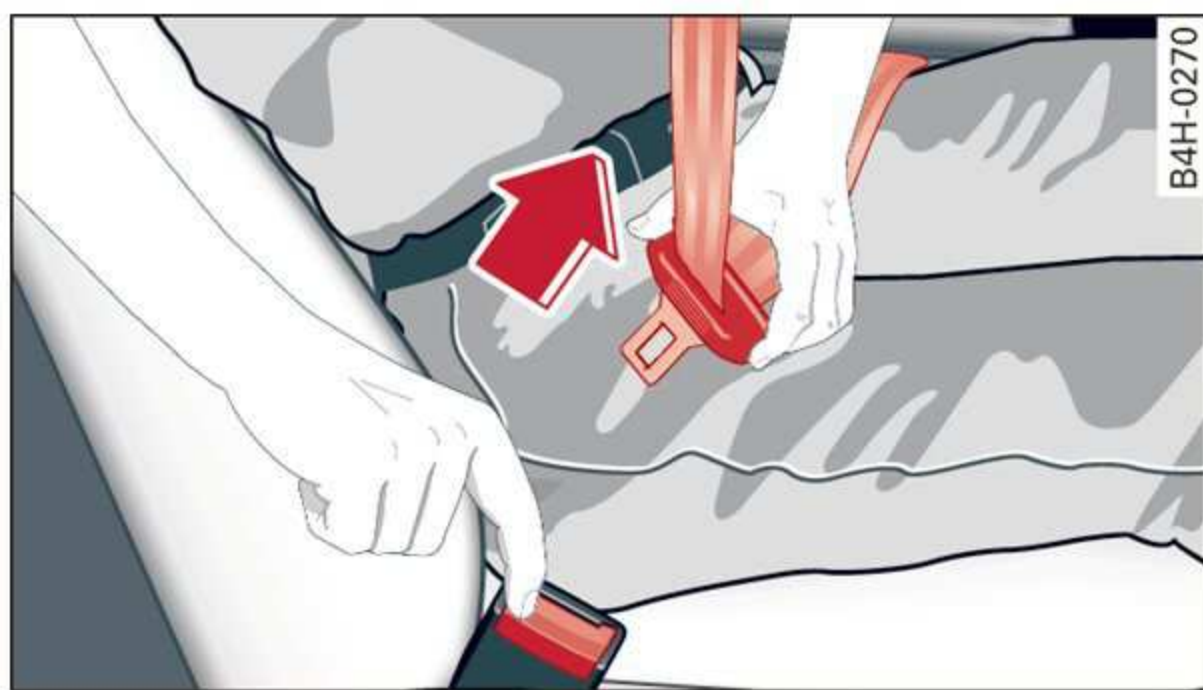

Fig. 154 Releasing the tongue from the buckle
- ▶ Push the red release button on the buckle ⇒ *fig. 154*. The belt tongue will spring out of the buckle ⇒ **!**.